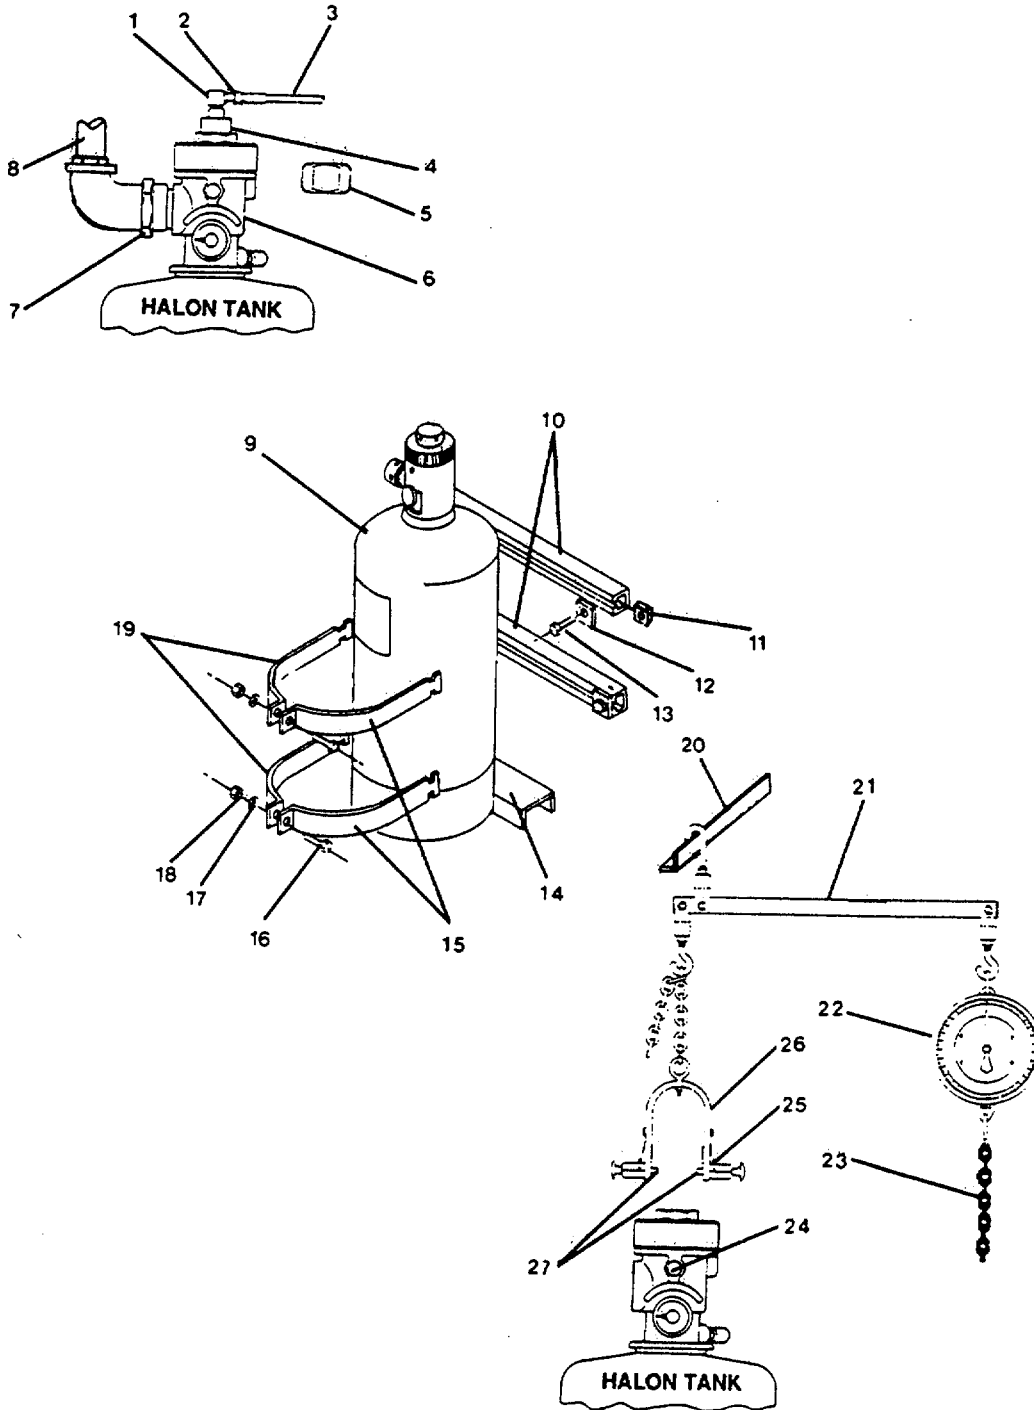

FIGURE 3-2. *Halon Tanks (Paint Locker).*
- (1) Disconnect hose connector (2, Figure 3-2) from male adapter elbow (1) on actuator (4).
- (2) Remove male adapter elbow from actuator.
- (3) Remove actuator from halon tank valve (6).
- (4) Install protective shipping cap (5) on actuator mounting threads.
- (5) Disconnect discharge hose (8) from tank valve (6) at union elbow (7).
- (6) Remove two hex plain nuts (18), lockwashers (17) and hex head capscrews (16) securing halon tank (9) and halon brackets halves (15) and (19).
- (7) Loosen two hex head capscrews (13) and slide capscrews and channel units (11, 12) off cylinder channels (10).
- (8) Slide halon bracket halves (15) clear of halon tank and off cylinder channels.
- (9) Slide halon bracket halves (19) on cylinder channels away from and clear of halon tank.
- (10) Remove halon tank from platform (14).
- (11) Position lifting yoke (26) over valve (6) on halon tank.